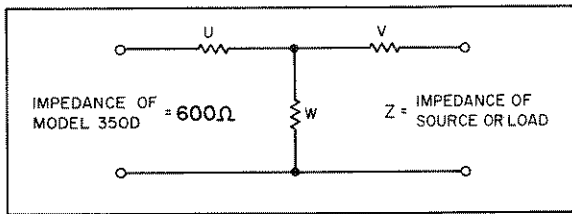

Figure 3-2. Model 350D Matching Network
- b. Except for the condition stated in a., a resistive impedance-matching network should be used. Resistors should be deposited film or carbon type. Also, better accuracy is obtained if the network is enclosed in a shielded container and connecting leads are kept short. Data on impedance-matching networks for the Model 350D are given in Figure 3-2 and Table 3-2. The amount of insertion loss is included in Table 3-2.
- c. Networks may be used which provide the Model 350D and its load with an impedance match. Network data and connections are given in Figure 3-2 and Table 3-2. Figure 3-1C shows a network for matching a 200-ohm load and the 600-ohm Model 350D Output; Figure 3-1D shows a network for matching a 5000-ohm load and the 600-ohm Model 350D Output.